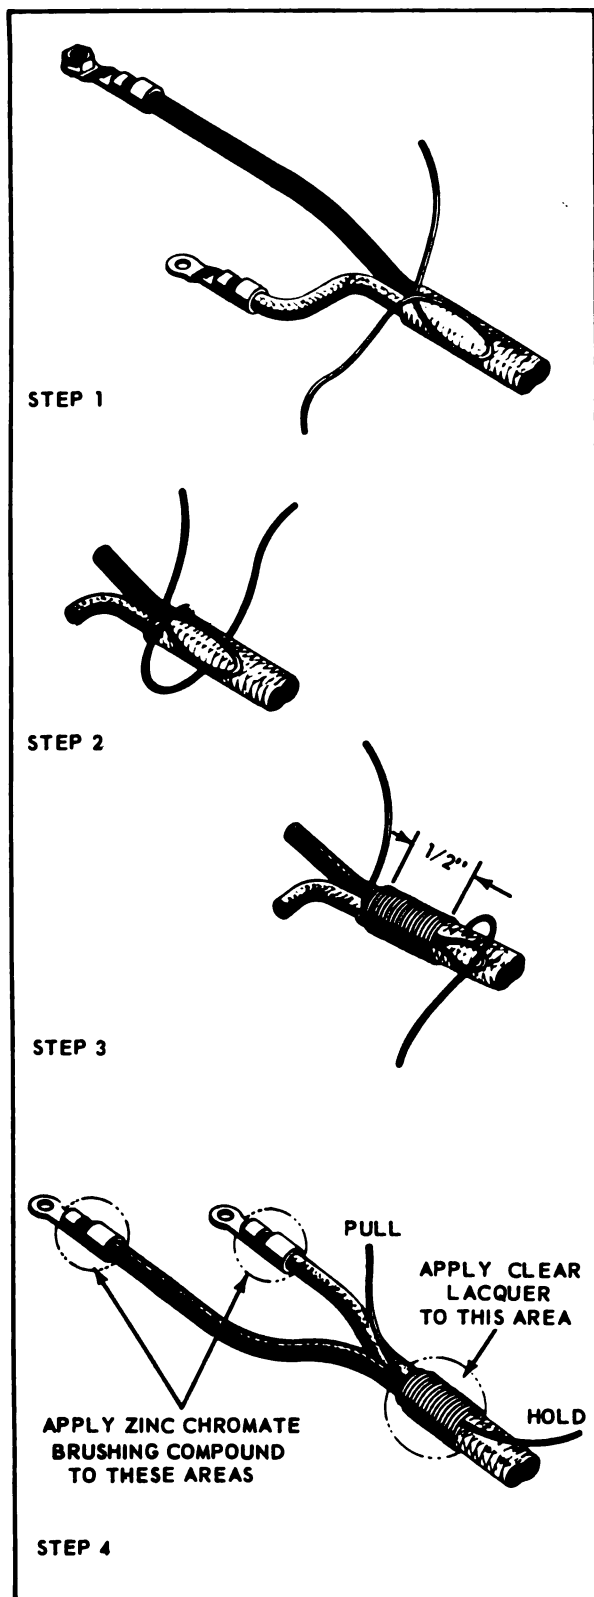

Figure 7-14. Servicing Thermocouple Wire
d. Coat areas indicated in figure 7-14 with zinc chromate brushing compound.
e. Serve the completed extension lead at branching point as described in 7-24, and shown in figure 7-14.
7-24. SERVING THERMOCOUPLE WIRE. After soldering operation has been completed, and solder has cooled, serve thermocouples at the branching point as shown in figure 7-14. Use nylon or waxed cotton cord in cool areas, and fiberglass cord in hot areas. Coat the serving with clear lacquer. The serving will prevent unraveling of the outer jacket.
e. Coat areas indicated in figure 7-14 with zinc chromate brushing compound.